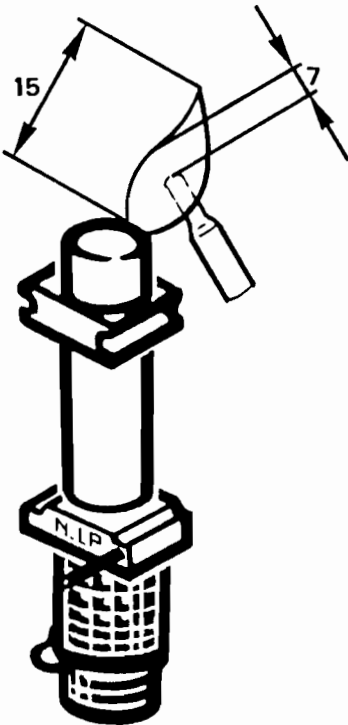
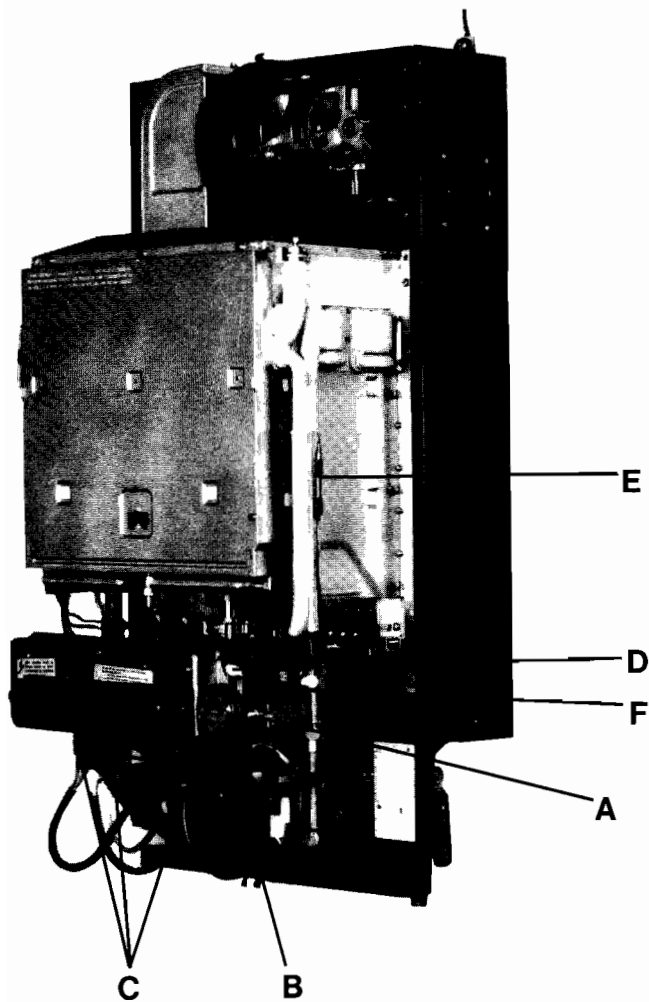

Fig. 10
Fig. 15
7. Check the pilot flame fully envelops the thermocouple tip and has a minimum flame design in accordance with Fig 10. The recommended range of operating parameter for the thermocouple is 6 mV mini to 10 mV.
- b. Ensure that the pilot flame envelops the thermocouple tip as in Fig.15 and that the spark electrode gap is set between 4.0 - 4.5 mm (Fig.10)
**Section 5 : To replace the electrical control box ( Fig.15 ).**